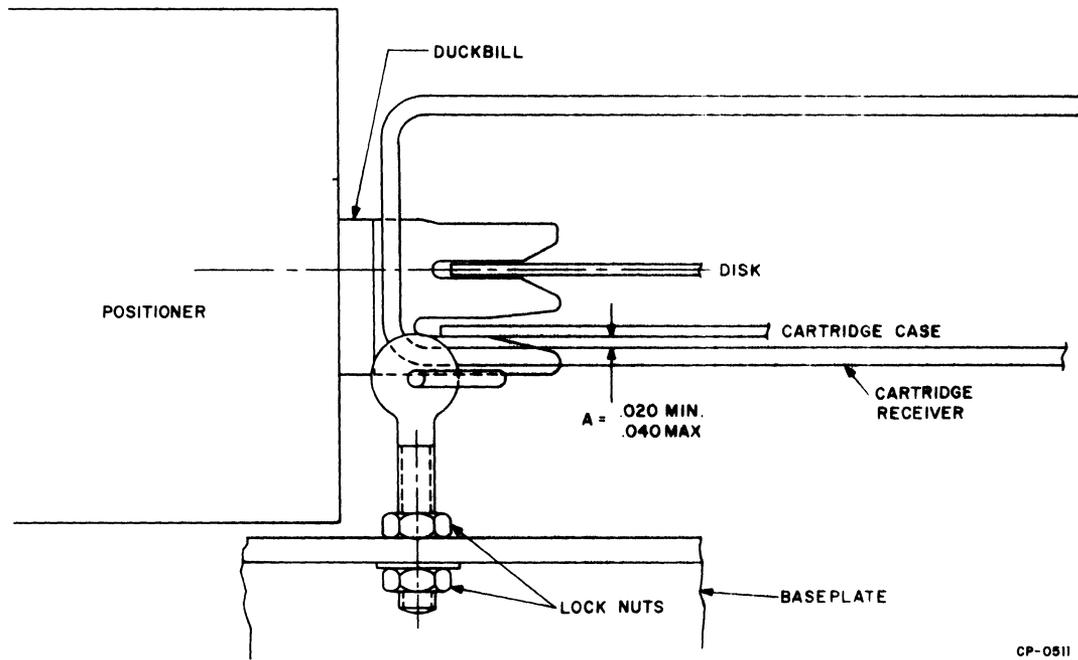

Figure 5-26 Cartridge-to-Receiver Clearance
There are two styles of cartridge receiver in the RK05 and RK05-J. The earlier style is an all-wire construction mounted on adjustable pivot posts (Figures 5-26 and 5-27). The later style (Figure 5-28) has a sheet metal "roof" and two rotating plastic clamps on the forward crosswire, and is mounted in a sheet metal bracket that is completely nonadjustable. The RK05-F with its nonremovable cartridge has no cartridge receiver as such. Instead, it has a cartridge guide, an access door wedge, and two hold-down springs (Figure 5-29). The description in this paragraph applies to the earlier RK05/RK05-J cartridge receiver.
3. Check for a 0.020 to 0.040-inch clearance (A in Figure 5-26) between the plastic cartridge case and the receiver rails. Perform this measurement toward the rear of the receiver at a point where the plastic cartridge case passes over the intersecting receiver rails.
4. If the (A) clearance is incorrect, loosen the pivot post lock nuts and adjust the height of both posts to obtain the proper clearance. Hold the pivot post at (X) with an adjustable wrench while loosening and tightening the lock nuts (Y).
6. Tighten the pivot post lock nuts and recheck all clearances. There must be clearances at points (A), (B), and (C); however, it is particularly important that clearances (A) and (C) do not exceed the limits indicated in Figures 5-26 and 5-27.